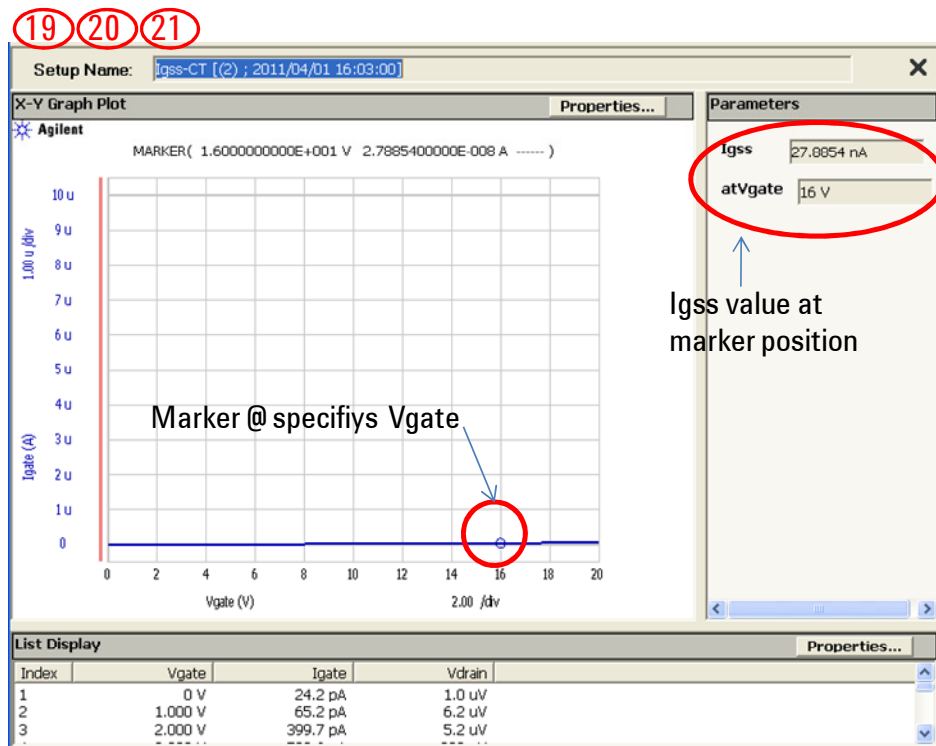

Figure 3-34. Igss-CT Classic Test example.
Step 21. You can see the Igate versus Vgate curve in figure 3-34.